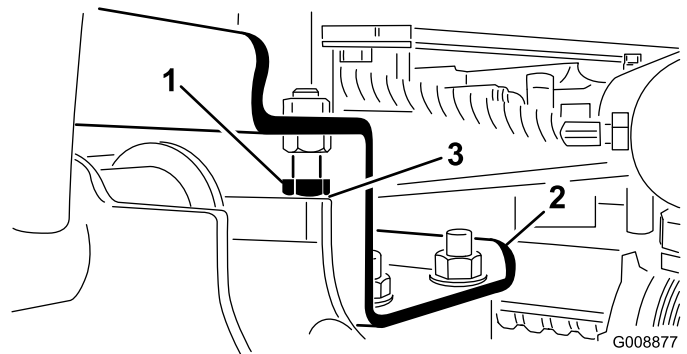

Figure 26
- A. Back off the stop bolts and adjust the cylinder to attain the clearance (Figure 26).
2. Check to ensure that the clearance between each lift arm and stop bolt is 0.13 to 1.02 mm (0.005 to 0.040 inches) (Figure 26).